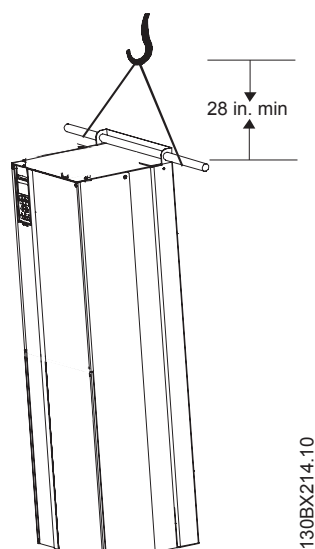

Figure 3.3 Proper Lifting Method
- Use solid steel spreader bar for lifting. Slide spreader bar through two (2) lifting rings on drive. Lifting rings are 0.75 in (19 mm) in diameter (see Figure 3.3).